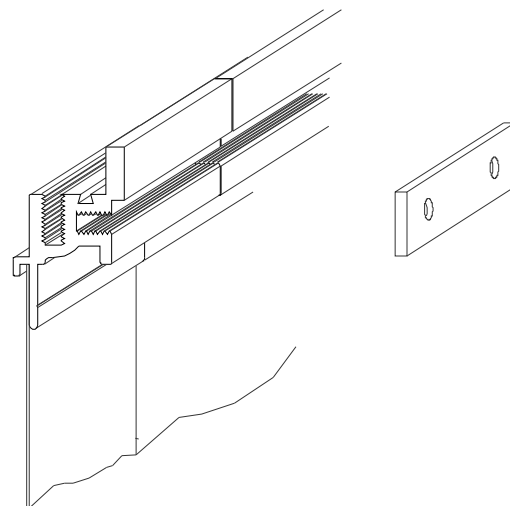

Figure 9
**STEP 4.** Select a splice bar and place it into position on the frame so that the splice bar traverses the splice and so that the splice is centered behind the splice bar (see Figure 9).